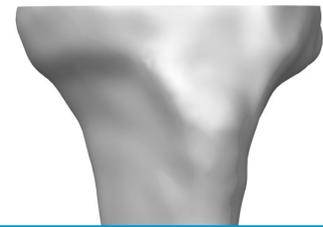

Fig. 28
1. Perform Distal Femoral and Proximal Tibial Resection (Fig. 28)